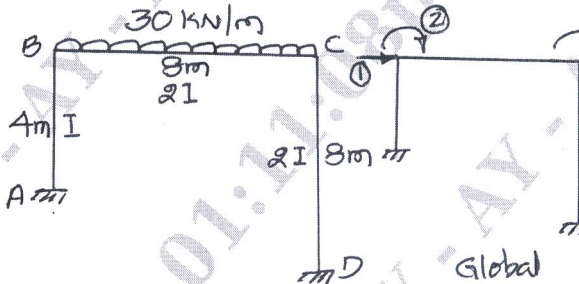

Fig.Q7
- 7 Analyze the portal frame by stiffness matrix method transformation approach. Refer Fig.Q7.